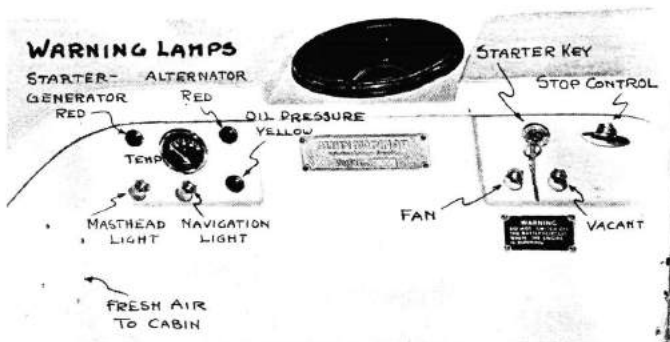

Fig. 17. Present engine controls for MD6A.
2. Check that the stop control is pushed in. See fig. 17.
5. Check that the yellow warning light for oil pressure and the red warning light for charging are on (fig. 17, 18).